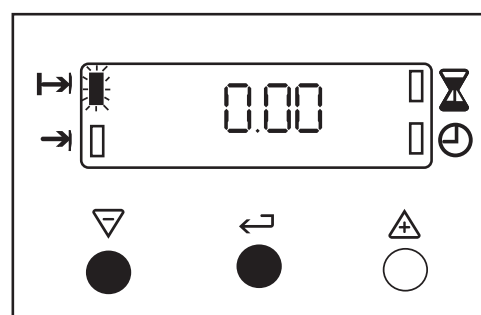

Fig.12.
- i) To cancel an automatic programme press the Selector Control button until the 'Cook Time' indicator neon flashes. Press the decrease control ( - ) until the display reads 0.00 as Fig. 12.